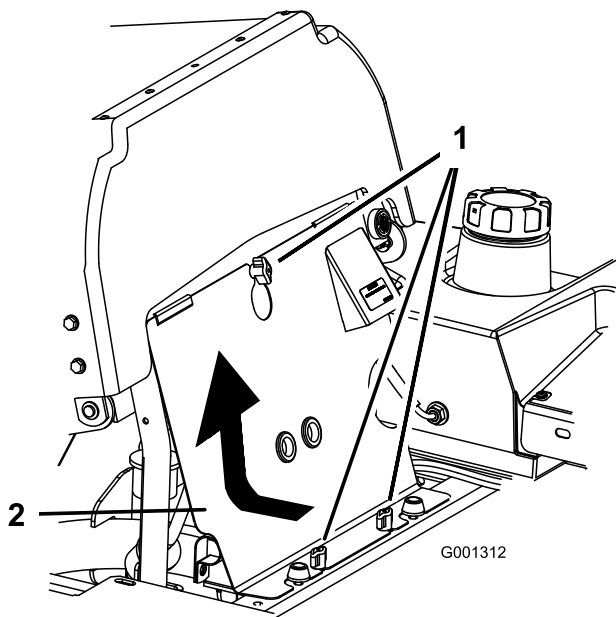

Figure 39
1. Tilt the seat forward and remove the front engine panel (Figure 39).